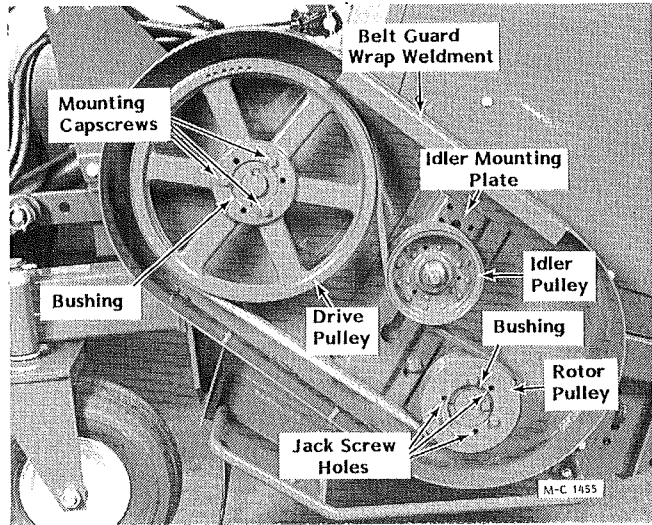

Figure 20
1. To check drive and rotor pulley alignment, remove the belt guard cover and place a straight edge across the face of the drive and rotor pulley, see Figure 20.
2. Remove the three mounting capscrews in the pulley, see Figure 20. Thread the capscrews into the three jackscrew holes in the pulley. Tighten the three capscrews progressively and evenly until the pulley is loose on the bushing.